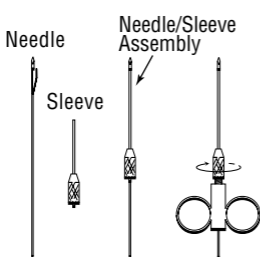

Figure 1
1. Insert needle through sleeve, making sure needle is flush with top of sleeve. Tighten sleeve on handle (**Figure 1**).